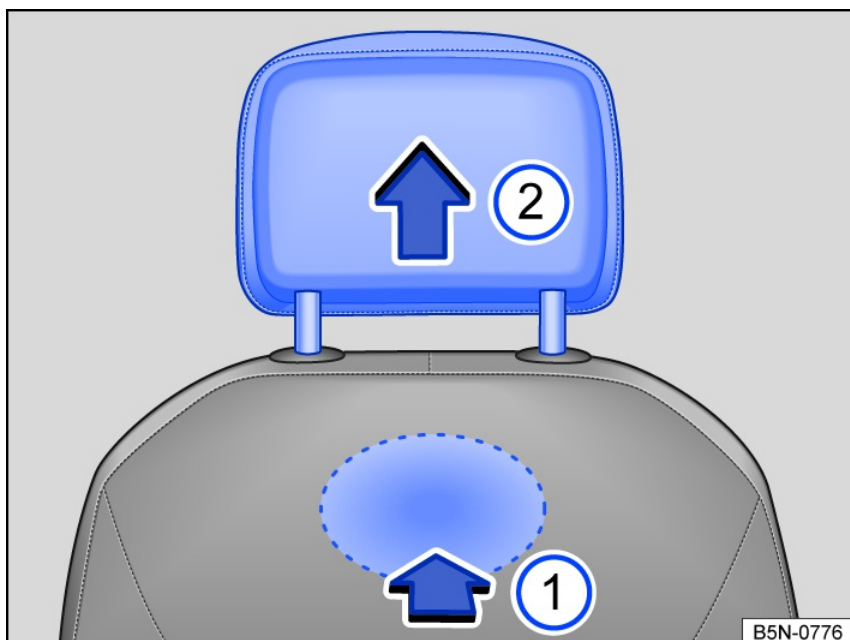

Fig. 85 Front head restraints: removing.
- To release, find the notch on the rear side in the marked area, push inwards in the direction of the arrow fig. 85 and hold.
- Remove the head restraints in the direction of the arrow fig. 85.